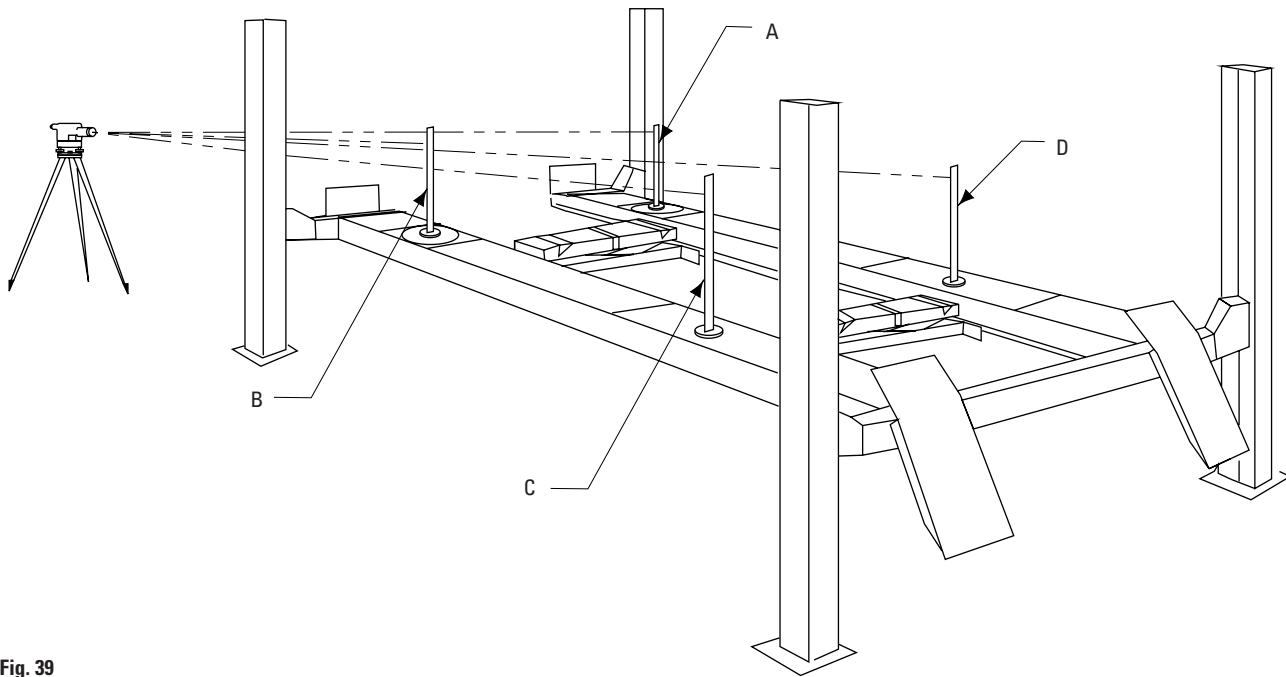
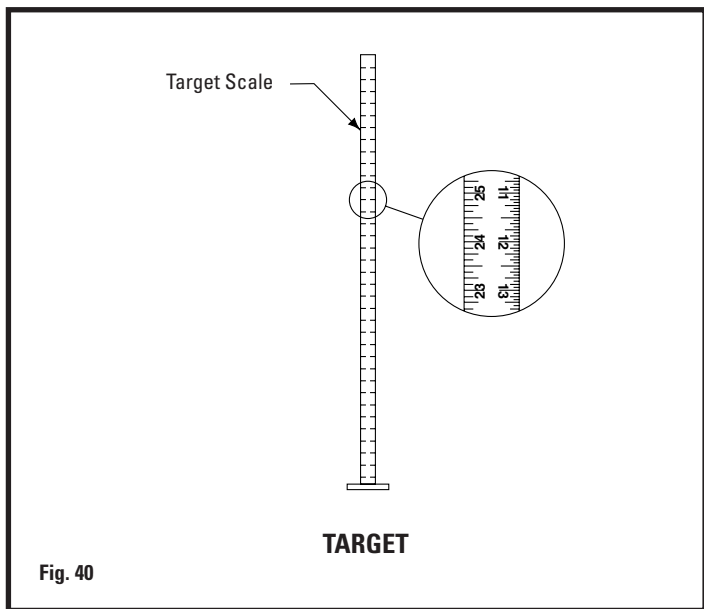

Fig. 39
Fig. 40
- D. Beginning with "A" position, Fig. 39, sight the Level to the target and mark the number or the graduation on the inch scale of the target that aligns to the crosshairs of the Level, Fig. 40.
- E. Next, move the target and place it on the turning radius gauge at point "B", Fig. 39.
- G. Adjust the adjustment nut on the locking latch plate adjustment stud at the top of the column at "B", Fig. 39, by loosening the jam nut and turning adjustment nut until the crosshairs of Level align to reference mark on the target scale.
- I. Always recheck the level of the runways to be sure all four locking latch plates are adjusted correctly. Start at point "A" and recheck level at points "B", "C", and "D", Fig. 39. Re-adjust, if needed. The runways are now level at all four points.